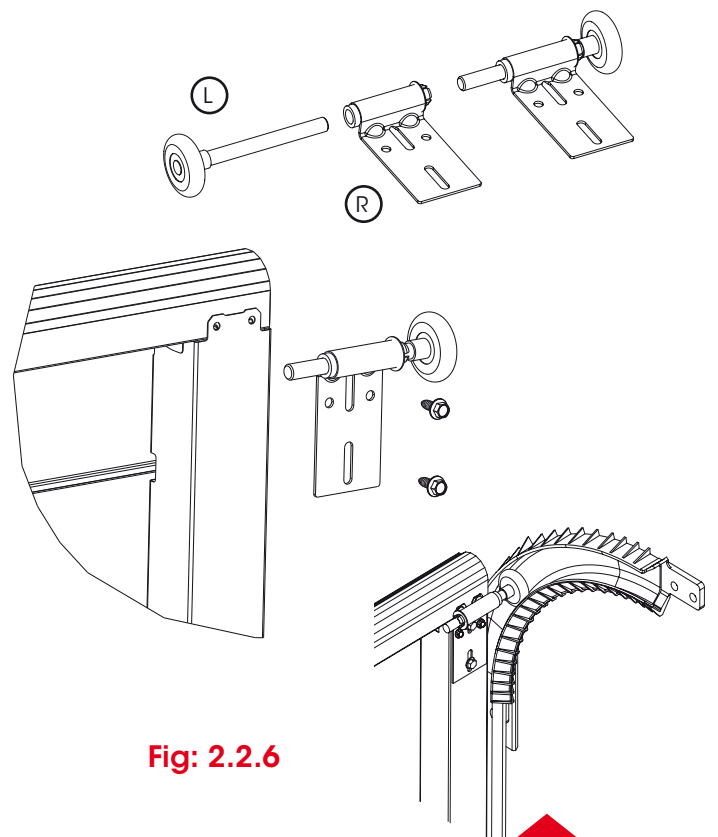

Fig: 2.2.6
- k) Insert the appropriate wheel axle (L) (standard, extended or smooth track) into the top hanger (R) Fig 2.2.6.